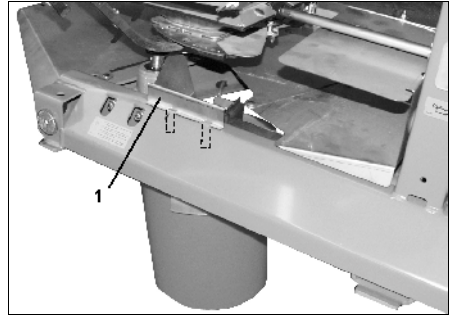

Fig. 32
- Hang the outlet chute (Fig. 32/1) on the frame.